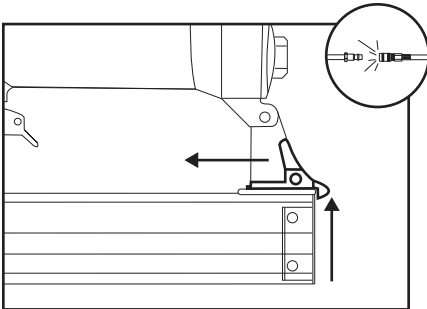

Figure 3. Pressing the magazine latch.
2. Press the magazine latch toward the front of the nailer, as shown in **Figure 3**.